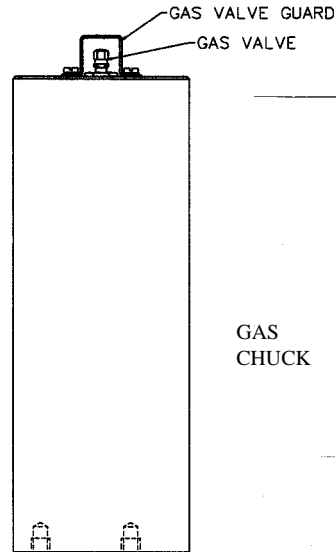

Figure 6: ACCUMULATOR
G. Procedure for Pre-Charging Accumulator (see Figure 6).
1. With the engine off, discharge all oil stored in the accumulators by pushing the service brake pedal several times. Remove the gas valve guard and gas valve cap on the accumulator (see Figure 6).